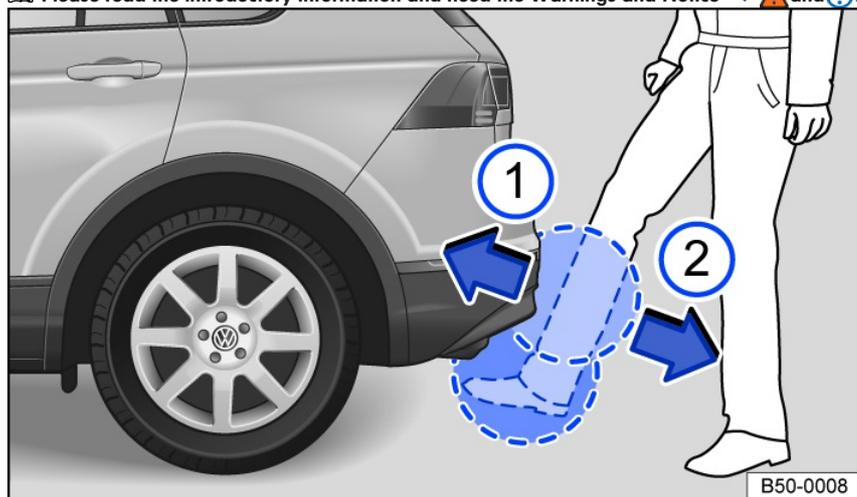

Fig. 66 Luggage compartment lid with sensor-controlled opening (Easy Open).
- Quickly swing the lower part of your leg close to the bumper. Your shin must be near the upper sensor and your foot must be near the lower sensor *fig. 66*.